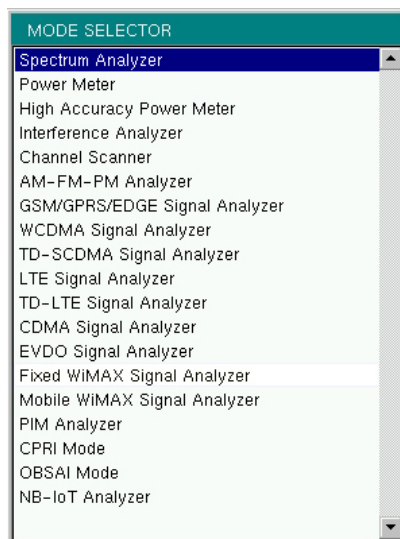

Figure 2-13. Mode Selector List Box
To change to another operation or measurement mode, press **Shift**, then the **Mode (9)** key to display the Mode Selector list box, illustrated in Figure 2-13. Use the directional arrow keys or the rotary knob to highlight the desired mode, then press **Enter** to switch to the selected application. The measurement modes available for selection depend on the options that are installed and activated on your instrument.